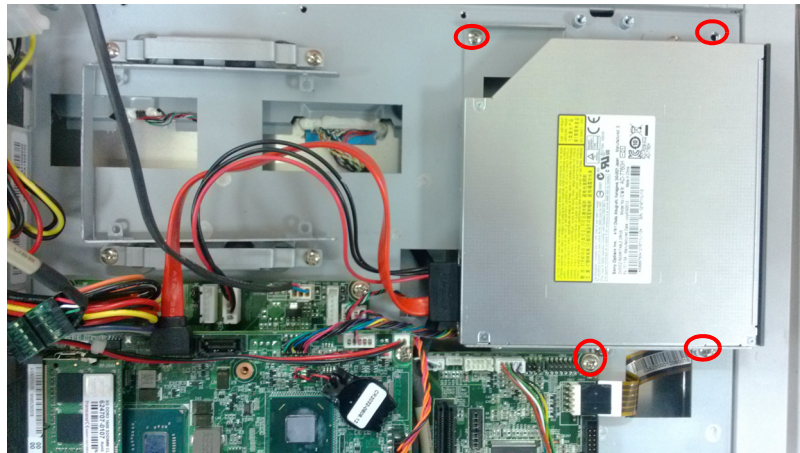

Figure 2.16
2. Take out ODD module, fix it onto the iron bracket, and connect the ODD cable to the corresponding interface.(See Fig 2.16)